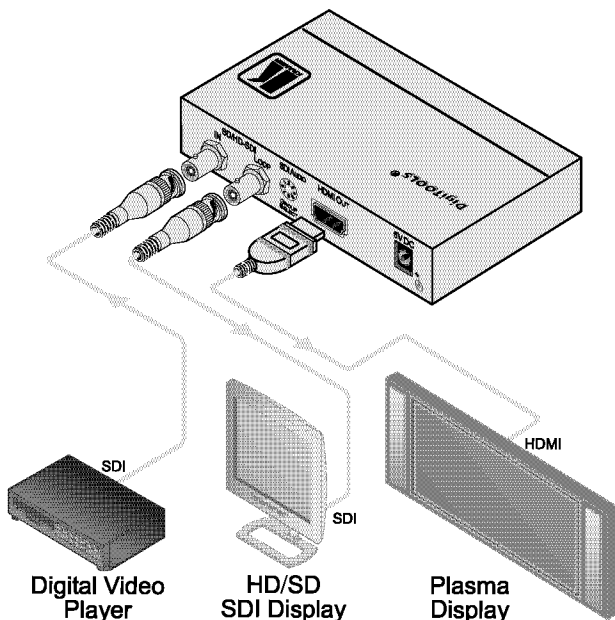

Figure 2: Connecting the FC-331 SD/HD-SDI to HDMI Converter
To connect the **FC-331**, as the example in *Figure 2* illustrates, do the following¹:
5. Connect the 5V DC power adapter to the power socket and connect the adapter to the mains electricity (not illustrated in *Figure 2*).